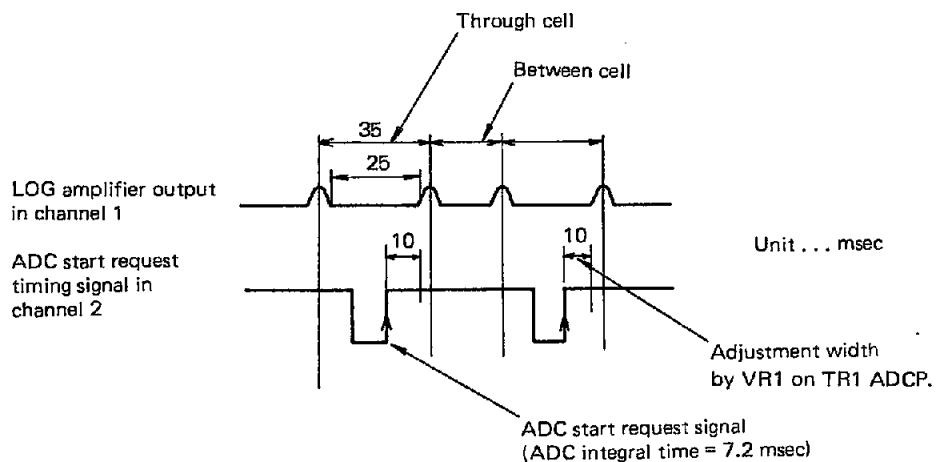

Fig. 8-21-2 Output Waveform
- Adjust the trigger level of the synchroscope so that a waveform as shown in Fig. 8-21-2 appears on the synchroscope when the reaction disk starts rotation.
- Adjust the VR1 on the TRI ADC PC board so as to locate the rising edge of ADC start request signal (waveform at TP15 on TRI ADC PC board) in channel 2 at the center of the high absorbance region due to cuvette wall which corresponds to the LOG AMP output signal (waveform at TP3 on TRI ADC 717 PC board) with reference to Fig. 8-21-2.